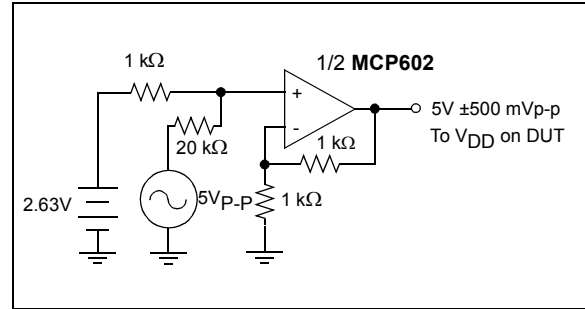

FIGURE 1-4: Power Supply Sensitivity Test Circuit (PSRR).
- 4: $V_{DD} = 5V$ DC ± 500 mV_{P-P} @ 1 kHz, see test circuit Figure 1-4.
Note 4: $V_{DD} = 5V$ DC $\pm 500 \text{ mV}_{P-P}$ @ 1 kHz , see test circuit Figure 1-4.